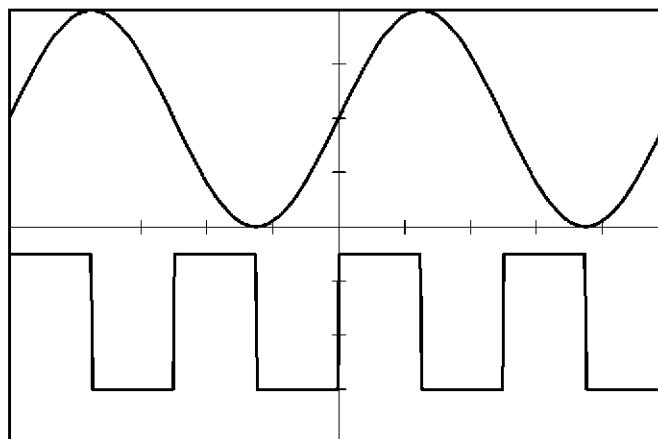

Figure 8-24 Reference Waveform for Memory Marker
22. Verify that the marker that repeats high and low for every 1/4 period of the output signal outputs as shown in Figure 8-24.